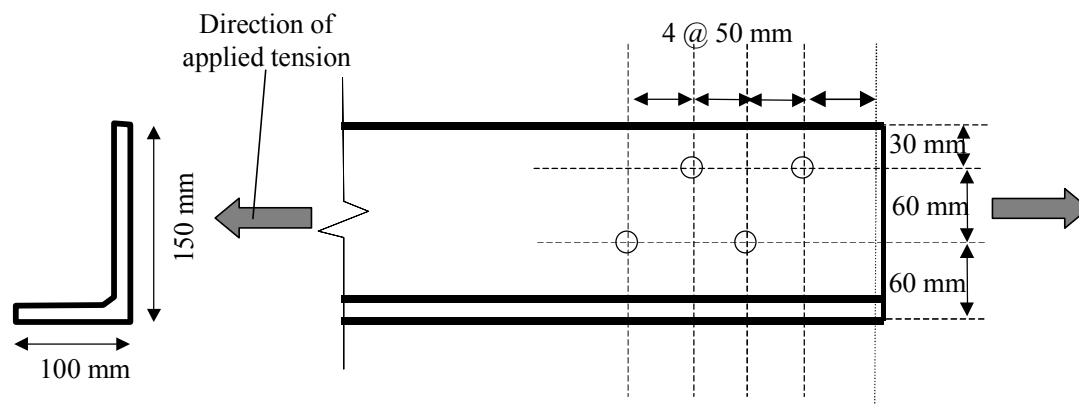

Figure 1: Bolt hole pattern in  $150 \times 100 \times 12$  UA Grade 300
- b) Single  $150 \times 100 \times 12$  Unequal Angles in Grade 300 steel are being used as diagonal tension members in a truss. A typical UA member is connected to each chord of the truss using M20 bolts through the long leg of the UA only, and the pattern of 22 mm diameter bolt holes is shown in Figure 1 below. The capacities of the bolts in shear, and the ply in bearing do not need to be considered.